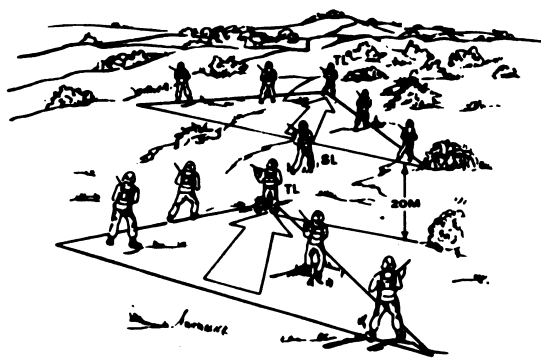

Figure 1. Traveling technique.
a. Use the TRAVELING technique when speed is necessary and contact with the enemy is not likely. ONE FIRE TEAM FOLLOWS THE OTHER, keeping about 20 meters apart, depending on the terrain. When traveling, the best location for the squad leader normally is with the lead team to aid navigation, movement, and control (fig. 1).